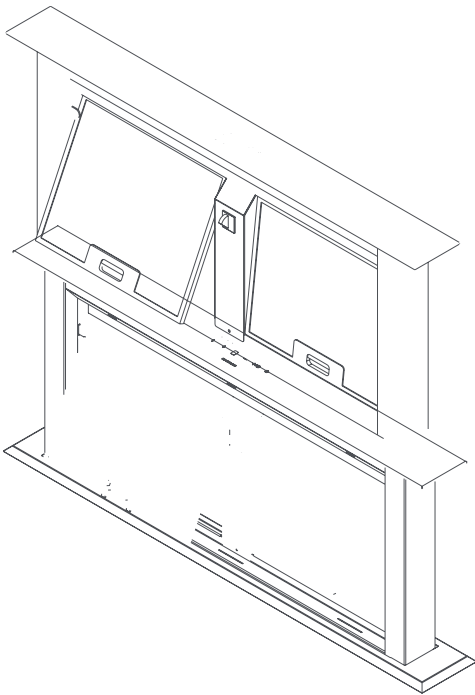

Fig. 11
2. ➔ Press the aluminium filter tab (1) and pull the aluminium filter to the direction of the arrow (Fig. 11).